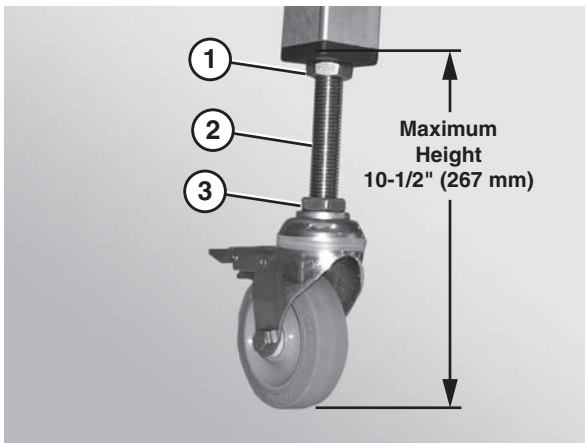

Figure 21
1. Loosen the upper nut (Figure 21, item 1) on the caster stem (Figure 21, item 2).
2. Rotate the lower nut (Figure 21, item 3) on the caster stem (Figure 21, item 2) to raise or lower the stand to the desired height.